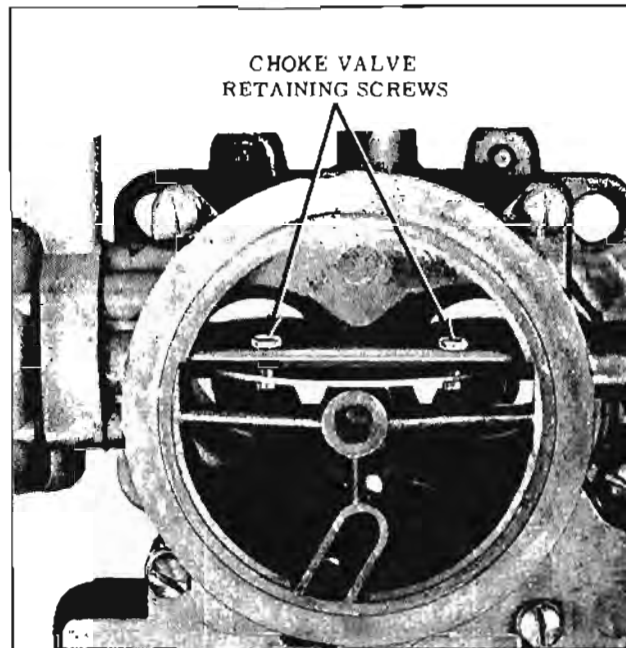

Fig. 9-152 Choke Valve and Shaft
10. Remove 2 choke valve retaining screws (file off staked ends). Remove choke valve. (Fig. 9-152)